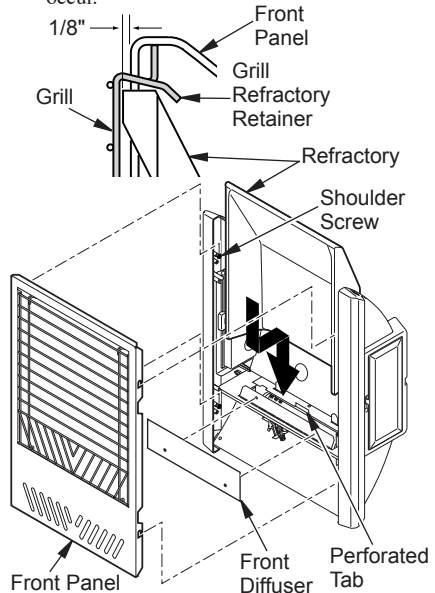

Figure 15 - Installing Front Panel and Refractory
1. Gently lift refractory and position into heater. Take care not to damage refractory. Ensure refractory sits behind perforated tab. (see Figure 15). If refractory is damaged call the phone number found under *Replacement Parts*, page 21.
2. Install front diffuser as shown in Figure 15.
3. Install front panel of heater by placing slots on each side over and down onto shoulder screws (see Figure 15).
4. Refractory must be positioned so the top is held outward by the grill refractory retainer. Refractory must extend outward approximately 1/8" from the plane of front face (see Figure 15). If refractory does not extend past front panel, discoloration of front panel can occur.